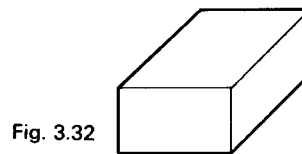

Fig. 3.32
**Orthographic projection.** The object shown in Fig. 3.32 is very easy to understand, but it shows only three sides of the object out of a possible six. To overcome this disadvantage a system of drawing known as orthographic projection has been developed. In this system a full view of each side of the object is shown in turn. Normally three full views are sufficient to show all the details of the object.